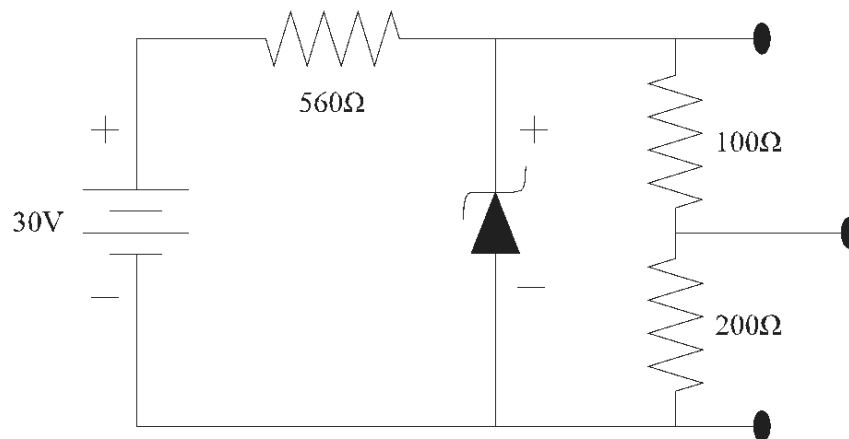

Figure 3-19. Circuit of exercise 3.6.
- 3.6. The Zener diode in figure 3.19 has a Zener voltage of 20V. Determine the voltage that falls across each of the load resistors.